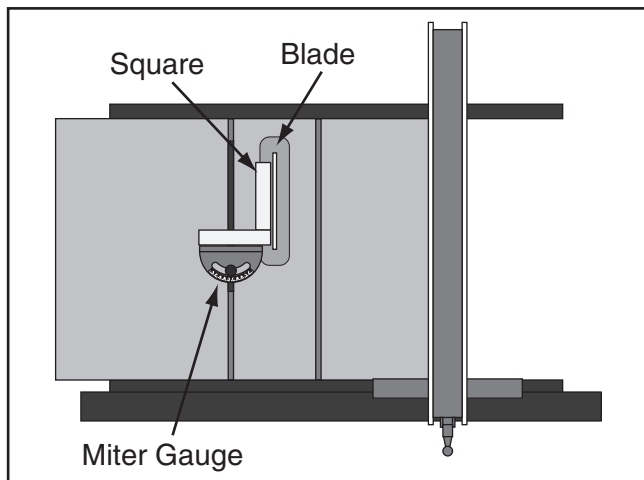

Figure 118. Checking 90° stop on miter gauge.
4. Place the square evenly against the face of the miter gauge and the blade, as shown in **Figure 118**.